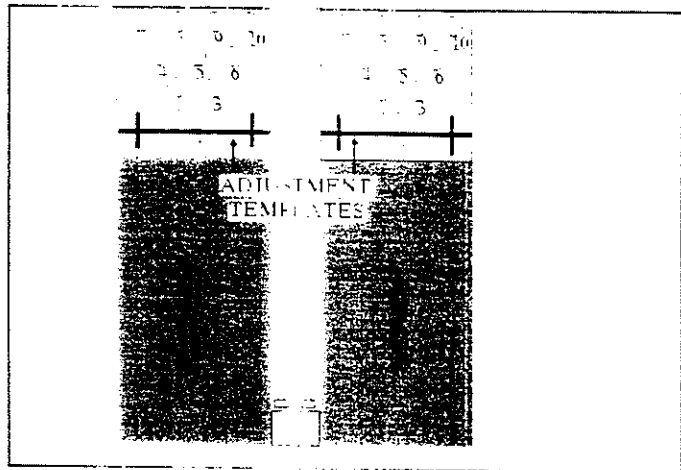

Figure 8
Using the metal Camera Adjustment Template (CAT) and placing it in front of the headpin perpendicular to the lane as shown in Figure 8 you will notice, if you view at the camera level, that the camera only uses the top of the pins during its readings. This is helpful to know and from this you can deduce the following:
C. Position the CAT in front of the pins (with the white insert in place), refer to Figure 8 for the proper position of the template.